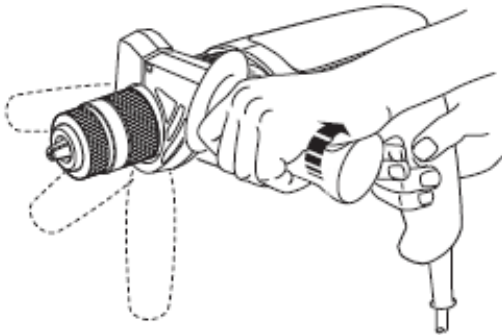

FIGURE 3
1. Turn the handle clockwise so that the handle support (figure 3) can slide on the front of the tool, as illustrated in figure 3. Set the desired position.